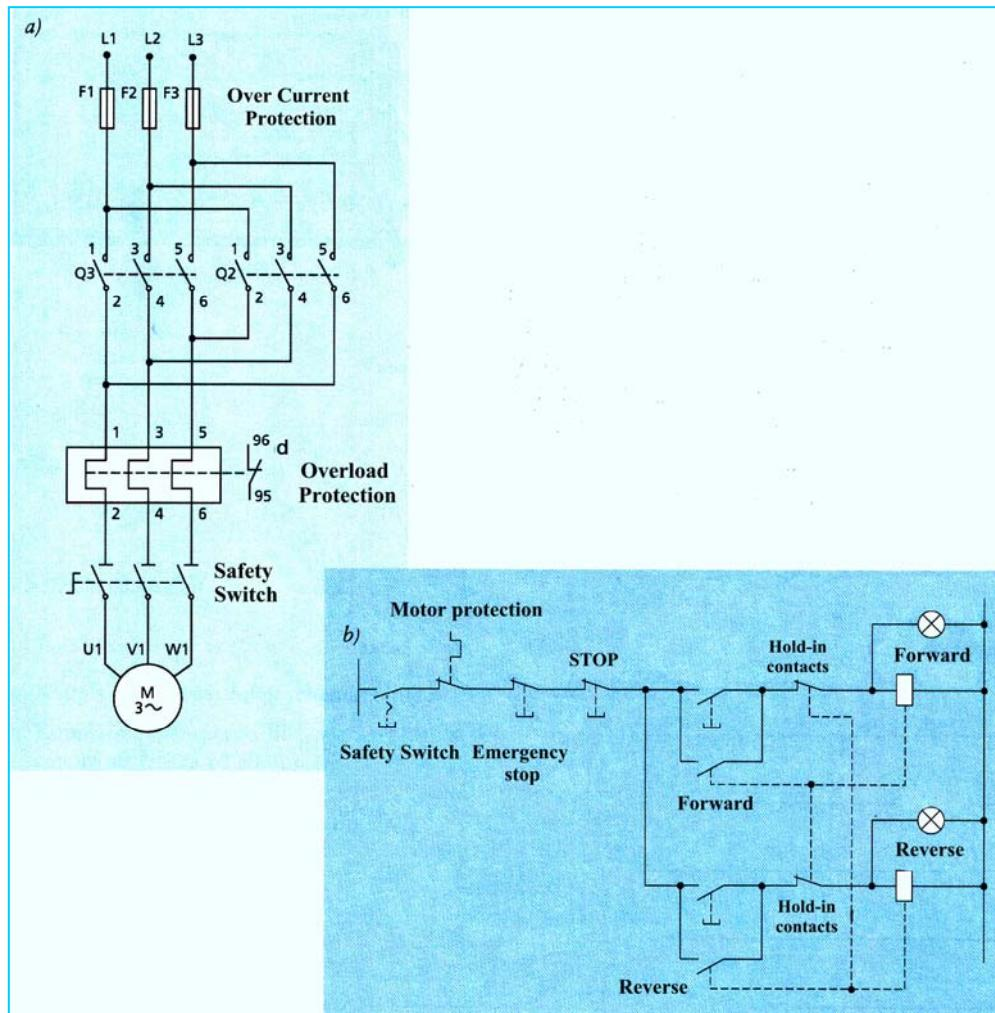

Fig.4.1    Diagram with forward and reverse of motor.
- Study the circuit diagram in figure 4.1.
- Connect the control circuit as shown in figure 4.1. Number the switches according to the control module and also give the connection number.
- Figure 4.2 below shows a simplified diagram of how the motors power circuit is connected to the 3-phase terminal and contactor module. Connect the power circuit as shown in figure 4.1.
- Connect the control circuit as shown in figure 4.1.